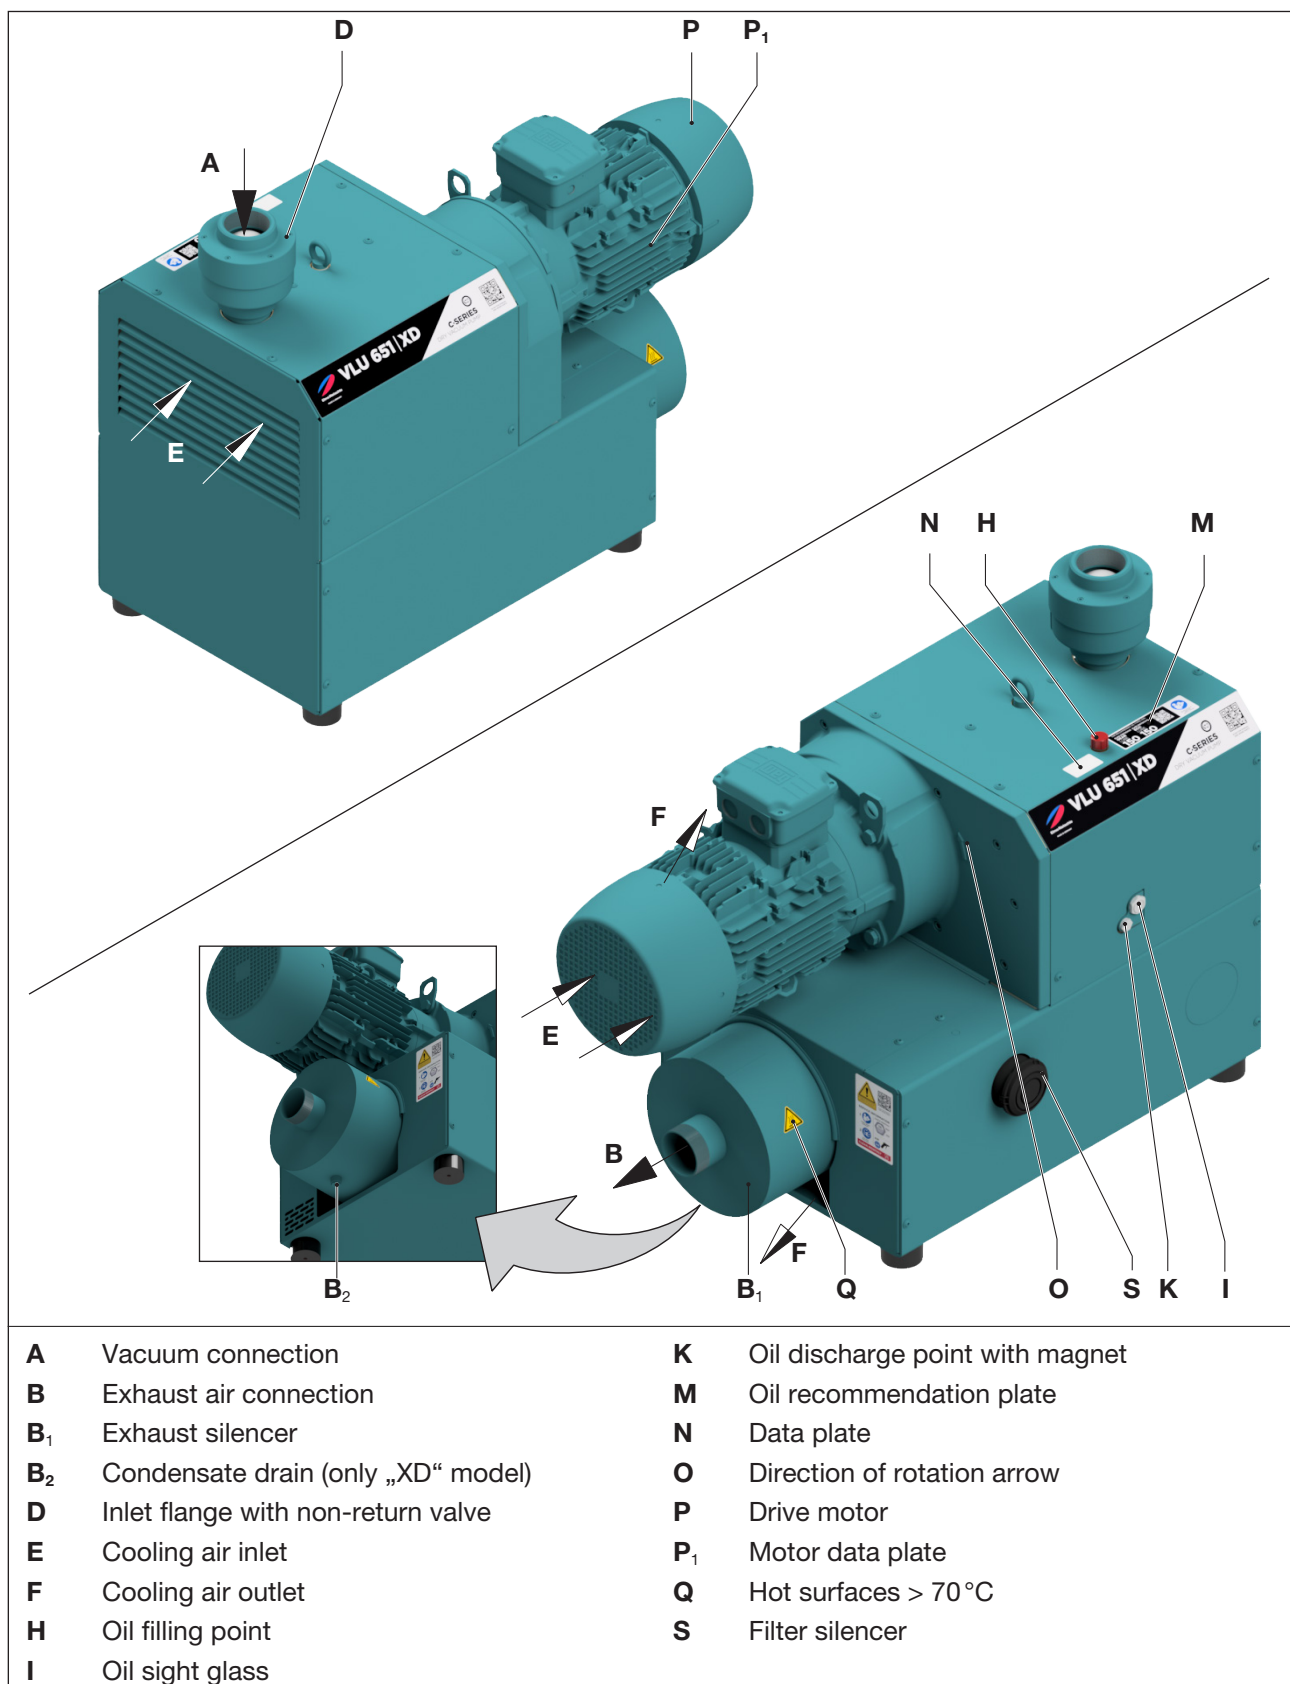

Fig. 2 Vacuum pump C-VLU 651 XD (type 401/501 and variant CD are identical)
The C-VLU 401 | 501 | 651 have a connection flange on the inlet side and an exhaust silencer (Fig. 2/B1) on the pressure side. The intake air is cleaned by a mesh filter. An integral non-return valve prevents the evacuated system from being ventilated after the pump has stopped.
The C-VLU 401 | 501 | 651 are enclosed in an insulation hood. In order to dissipate compression heat, the cooling air is sucked through between the compressor and the hood using a drum fan that sucks in the fresh cooling air (Fig. 2/E) and discharges the heated air out of the cooling air outlet (Fig. 2/F). It is driven via a coupling by a flanged, three-phase standard motor.
- Oil filling point (Fig. 2/H), oil sight glasses (Fig. 2/I) and oil drain (Fig. 2/K) must easily be accessible.
- Remove the blind plug/adhesive film on the vacuum connection (Fig. 2/A) and exhaust air outlet (Fig. 2/B).
- Connect the pipes with the vacuum connection (Fig. 2/A).
- The exhausted air can be blown out through the exhaust air outlet (Fig. 2/B) on the exhaust silencer (Fig. 2/B1) or led away using a hose or pipeline.
- Check the lubricating oil level at the oil sight glass (Fig. 2/I) and top up if necessary. See chapter 7.5 on page 26.